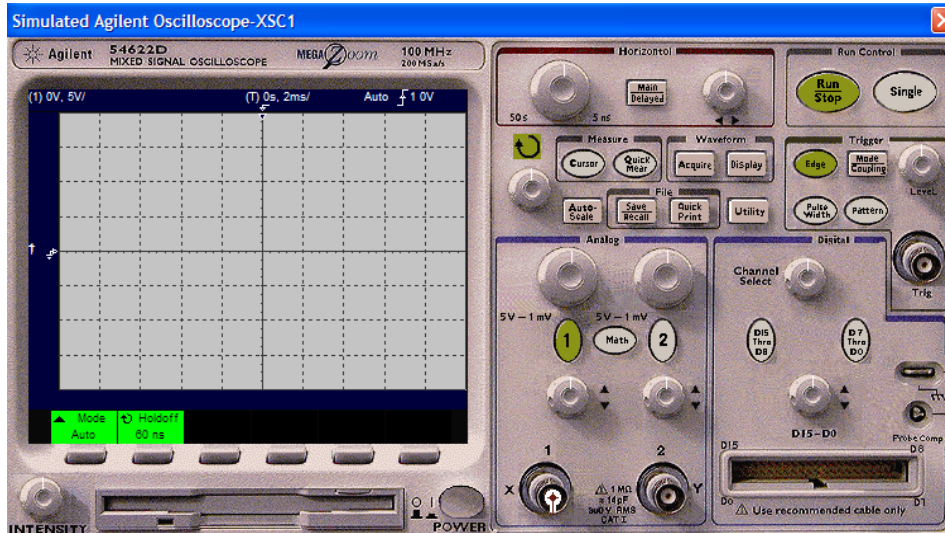

Figure 33. Setting up the Triggering mode
2. Lets set the trigger mode first. Left-click the  button. The result is shown in figure 33.